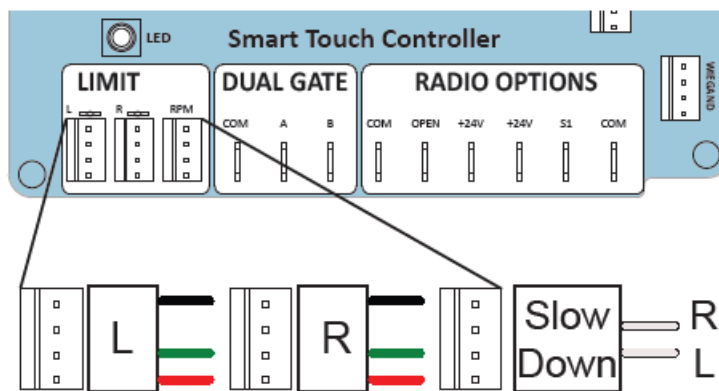

Figure 9. Connect the SD50VF2/3 Limit Sensor(s)
Note: On SD50VF2/3 models, connect the plug from the left and right limit sensor to the matching L/R terminal on the STC board (Figure 9).
15. (SD50VF2/3 only) Connect the 4-wire slow-down plug to the RPM terminal with the white wire from the left limit sensor below the wire from the right limit sensor (Figure 9).